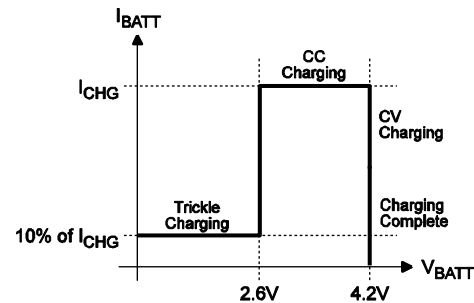

Figure 2—MP26121 Typical Charging Profile
Figure 2 shows the typical charging profile for the MP26121. For a fully depleted battery with a terminal voltage lower than 2.6V, the MP26121 will start with the trickle charge (preconditioning) at 10% of the full charge current based on the value of  $R_{\text{CHG}}$ . If the charger stays in trickle mode longer than 32768 cycles,  $\overline{\text{CHG}}$  becomes high impedance, indicating a battery fault. After the battery voltage reaches 2.6V, the charger begins charging using the programmed charge current ( $I_{\text{CHG}}$ ). This is referred to as Constant Current (CC) mode. Once the battery voltage reaches 4.2V, the charger will operate in the constant voltage (CV) mode until the battery is fully charged. The charge current drops during CV mode, and the battery full indication is set when the charge current is reduced to 10% of the programmed constant current value ( $I_{\text{CHG}}$ ). The charge process is then terminated. Recharge will start after the battery voltage is reduced to 4.0V. After 262144 cycles of continuous charging, if the battery still has not reached 10% of the  $I_{\text{CHG}}$  condition, the on-chip timer will terminate the charger to prevent charging the dead battery excessively and the fault condition will be flagged by flashing the  $\overline{\text{CHG}}$  LED.